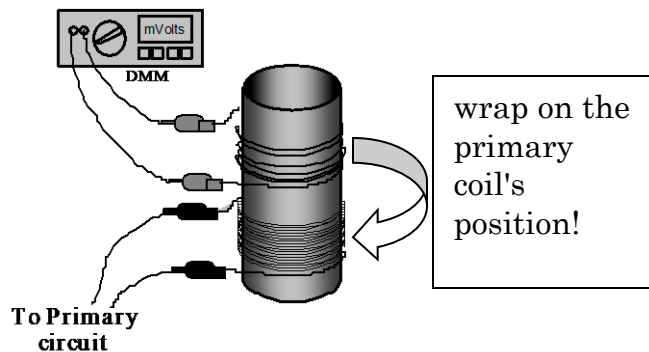

Figure 5. Wrapping the secondary coil
- Turn the primary coil and cylinder upright (as shown in Figure 5, actually you'd better lay it on the table). Make sure it is stable, since it should not be moved during the measurements.